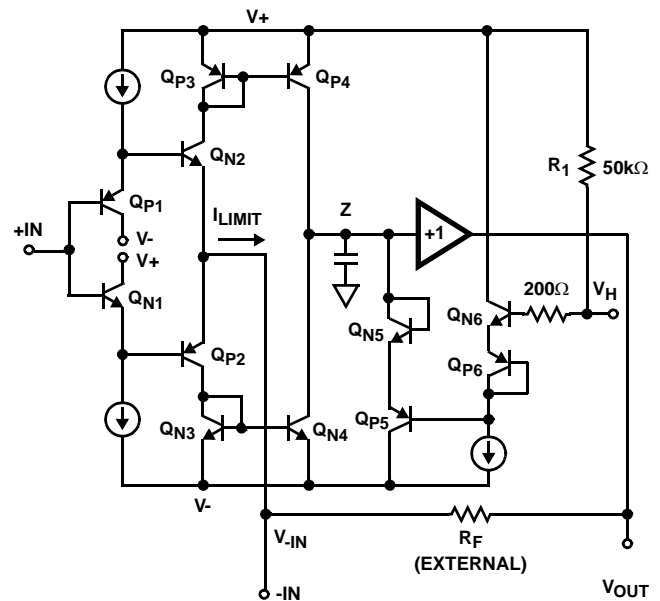

FIGURE 3. HFA1135 SIMPLIFIED VH LIMIT CIRCUITRY
Figure 3 shows a simplified schematic of the HFA1135 input stage, and the high limit (VH) circuitry. As with all current feedback amplifiers, there is a unity gain buffer (QX1 - QX2) between the positive and negative inputs. This buffer forces -IN to track +IN, and sets up a slewing current of:
The limited output voltage will not be exactly equal to the voltage applied to  $V_H$  or  $V_L$ . Offset errors, mostly due to  $V_{BE}$  mismatches, necessitate a limit accuracy parameter which is found in the device specifications. Limit accuracy is a function of the limiting conditions. Referring again to Figure 3, it can be seen that one component of limit accuracy is the  $V_{BE}$  mismatch between the  $Q_{X6}$  transistors, and the  $Q_{X5}$  transistors. If the transistors always ran at the same current level there would be no  $V_{BE}$  mismatch, and no contribution to the inaccuracy. The  $Q_{X6}$  transistors are biased at a constant current, but as described earlier, the current through  $Q_{X5}$  is equivalent to  $I_{LIMIT}$ .  $V_{BE}$  increases as  $I_{LIMIT}$  increases, causing the limited output voltage to increase as well.  $I_{LIMIT}$  is a function of the overdrive level  $((A_V \times V_{IN} - V_{LIMIT}) / V_{LIMIT})$ , so limit accuracy degrades as the overdrive increases. For example, accuracy degrades from +15mV to +70mV when the overdrive increases from 100% to 200% ( $A_V = +2$ ,  $V_H = 500mV$ ,  $R_F = 250\Omega$ ).